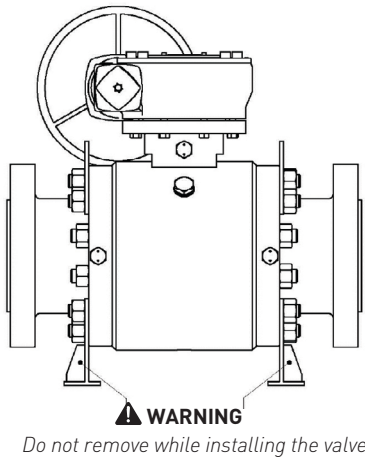

FIGURE 7
- If mounting Stand or Support stand of valve is provided on end flange they shall be removed before installation on the pipeline (refer Figure 7).
- To reinstall the mounting/support stand from valve, position the valve above ground level by using appropriate material handling/lifting equipment. Refer handling section of this IOM. Loosen and remove the nuts and bolts/studs from mounting stand set. Position the stand aligning its holes with valve flange holes and retighten the nuts with bolts/studs as shown in Figure 7.